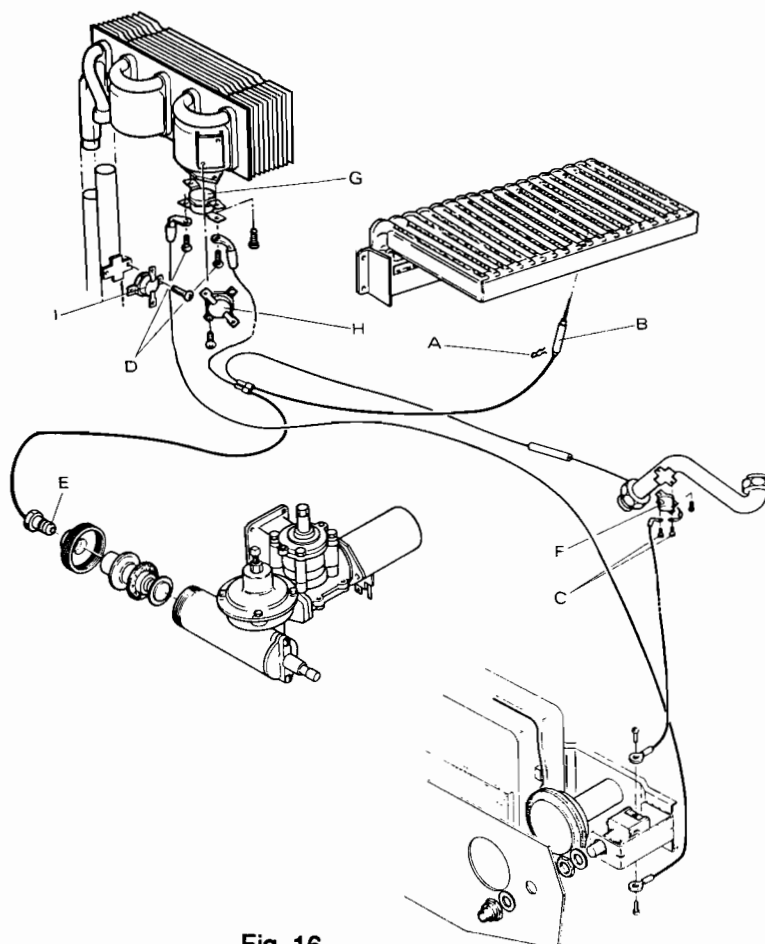

Fig. 16
**Section 6 : To Replace the thermocouple (Fig.16).**
- 6.7. Undo the 10 mm nut E (Fig. 16) connecting the thermocouple to the rear of the thermo-electric valve body and remove.